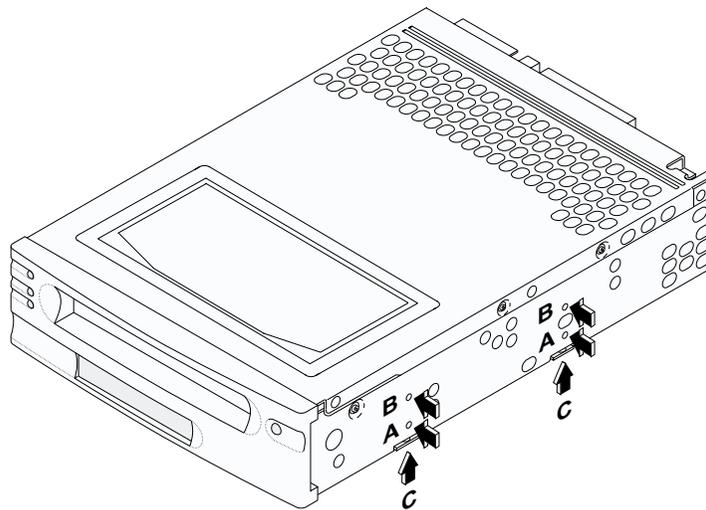

Figure 2-5 Mounting holes on the internal model (same holes on both sides)
As shown in Figure 2-5, the main housing of the tape drive includes three sets of four mounting holes to allow for a number of mounting positions (two sets on the sides, set A and set B, and one set on the bottom, set C). When mounting the drive, you must use only *one* set of holes (A, B, or C).
6. Choose *one* set of mounting holes shown in Figure 2-5. Use all four holes in whichever set you choose; do not use combinations of mounting holes from different sets.